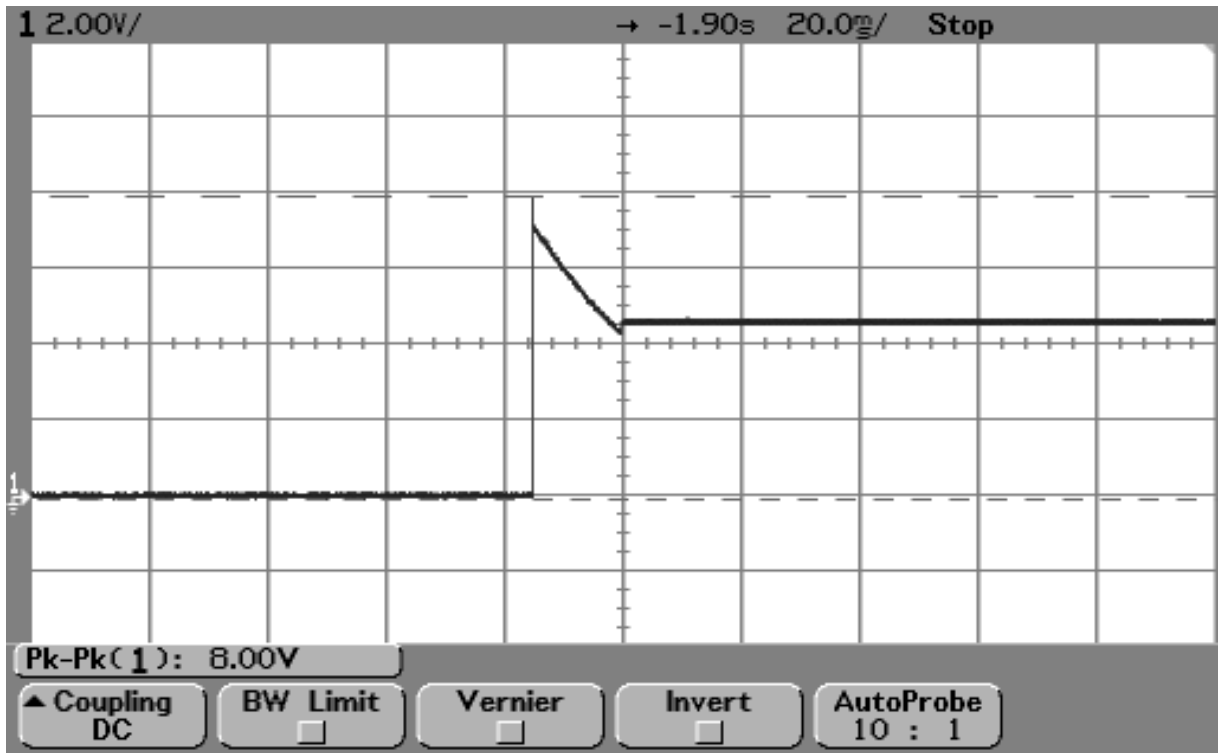

Figure W-1 Cold Start
- Figure W-1 Cold Start
5. Figure W-1 shows the pulse on the C15,i.e. the base signal of Q12 during the cold start.